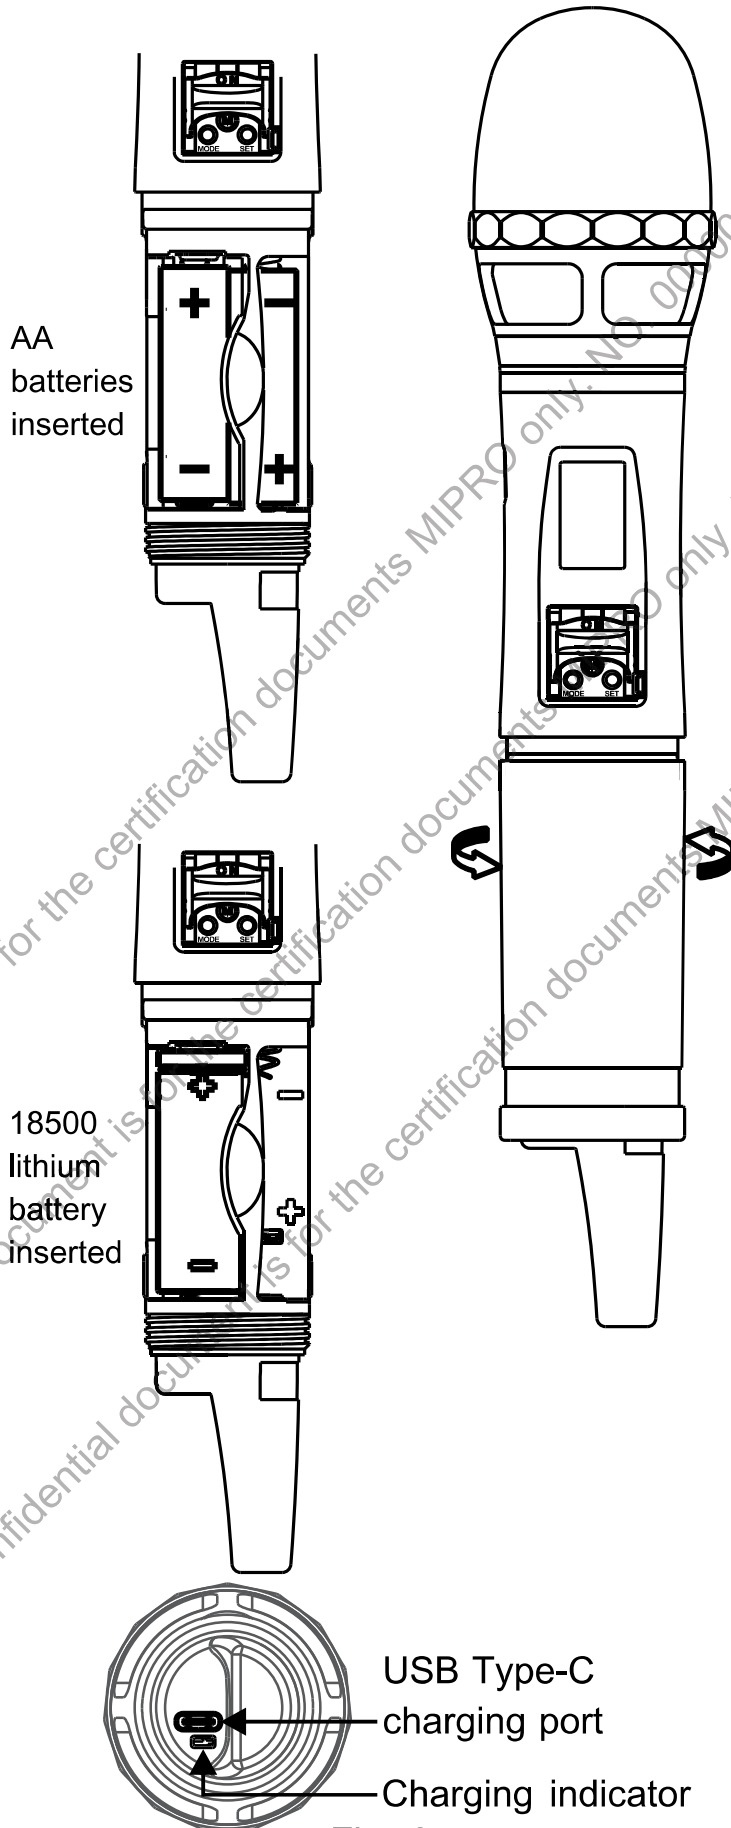

Fig. 2
1. Battery Insertion. Fig. 2:
- (A) Turn to detach the lower housing 14.
- (B) Insert one 18500 lithium battery or two AA batteries.
- (C) 18500 lithium battery insertion: insert one into the left holder with + pole upward.
- (D) AA batteries insertion: insert one into the right holder with – pole upward, and then insert another into the left holder with + pole upward.